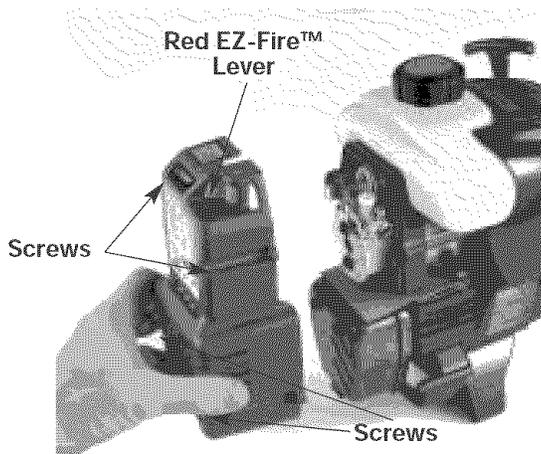

Fig. 12
1. Remove the four (4) screws securing the air filter/muffler cover (Fig. 12). Use a flat blade or T20 Torx bit screwdriver.
2. Insert the four (4) screws into the holes in the air filter/muffler cover (Fig. 12) and tighten. **Do not over tighten.**
9. Reinstall the air filter/muffler cover (Fig. 12).